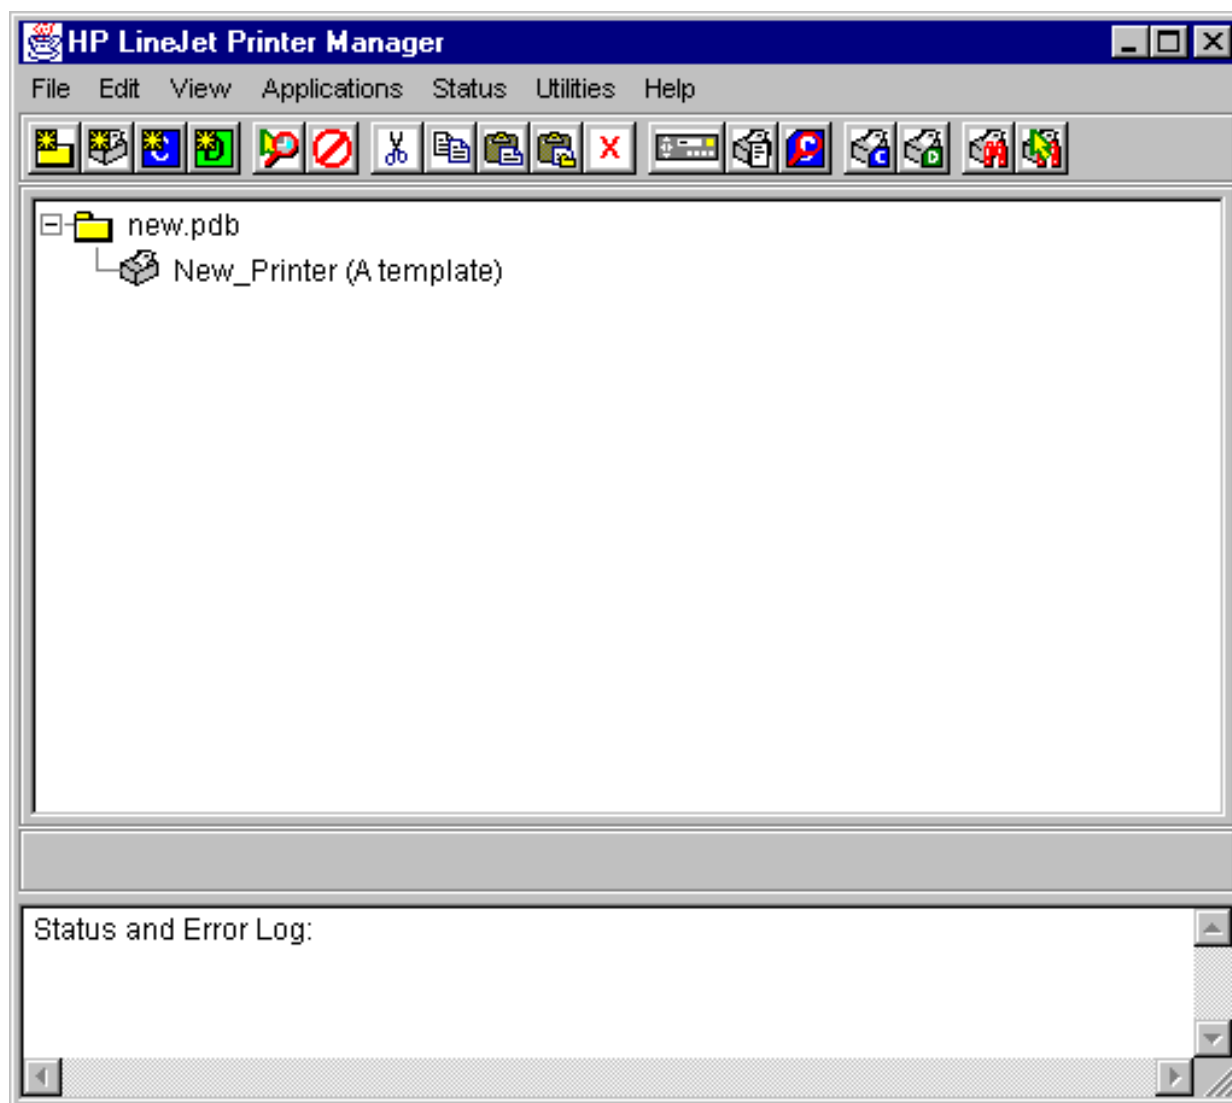

Figure 1. Printer Database Main Window
9. From your operating system, open the printer manager. A brief splash screen appears, then the main screen of the Printer Database, as shown in Figure 1.